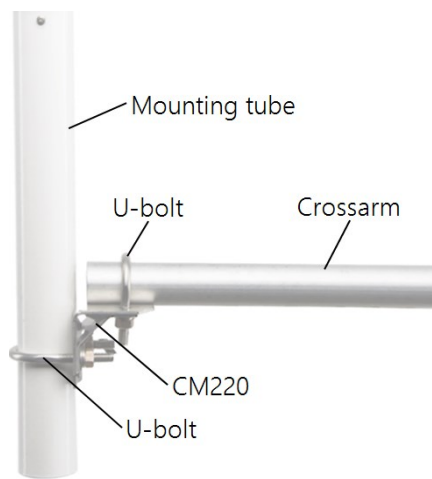

Figure 7-1. ClimaVUE50, MetSENS, or WindSonic Mounting Pipe Kit and crossarm
1. If using a crossarm, attach the mounting tube to the crossarm by using the CM220 Right Angle Mounting Kit, then mount the crossarm to the tripod or tower (Figure 7-1 [p. 15]).